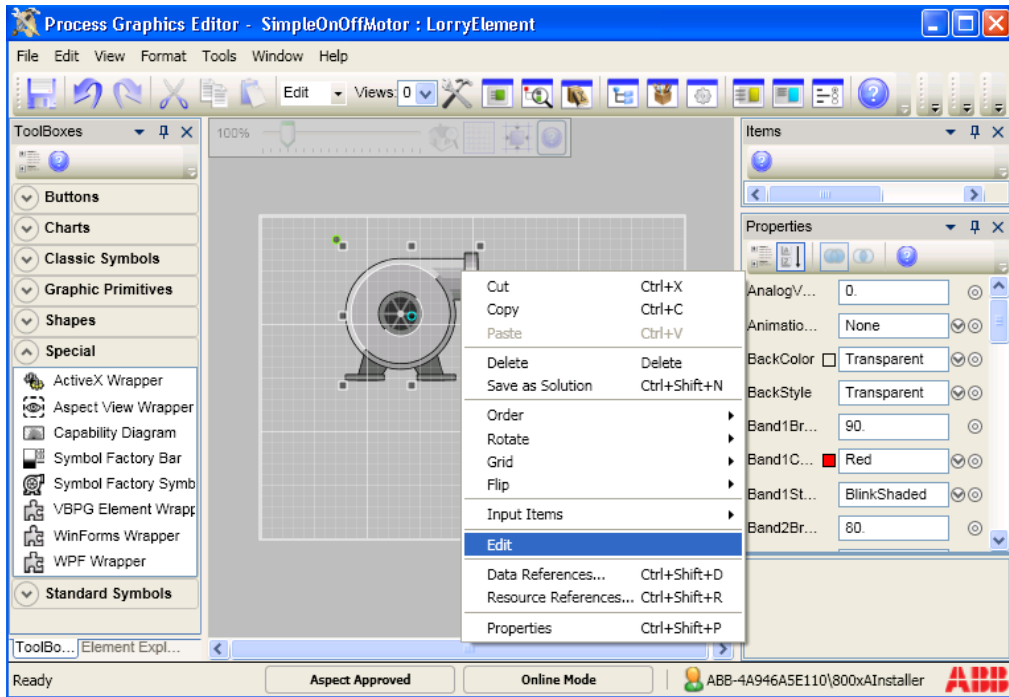

Figure 2. Editing a Symbol Factory Symbol
5. Right-click the symbol and select **Edit** from the context menu as shown in Figure 2.